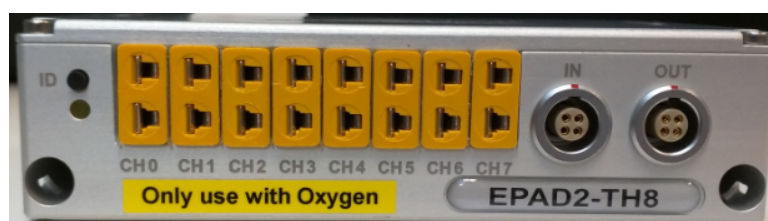

Fig. 4.28: Front of an EPAD2 module
- Once the programming has begun, the software will ask you to press the black *ID* button (see Fig. 4.28) on the first EPAD2 module. Then it will increment the address in the software by one. At this point you will press the second EPAD2s' black *ID* button and so on.